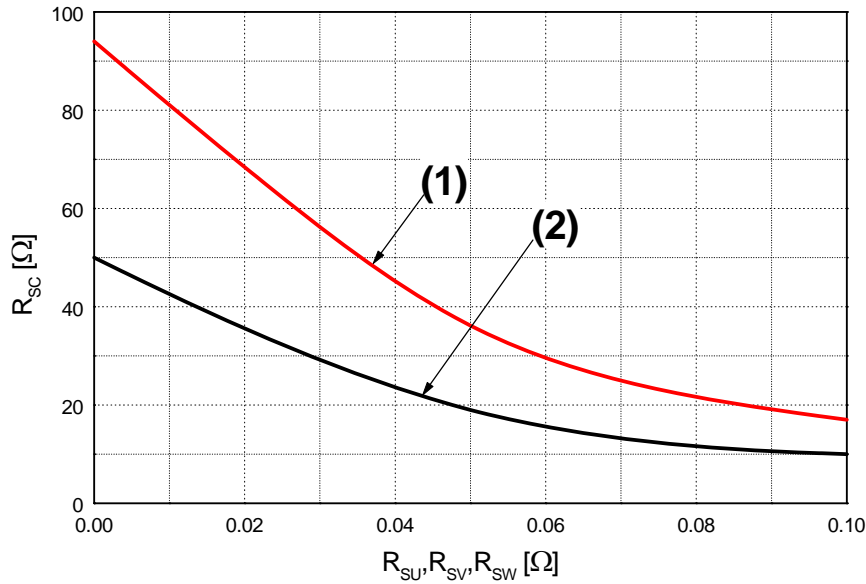

Figure 6. R_{SC} Variation by Change of Shunt Resistors (R_{SU}, R_{SV}, R_{SW}) for Short-Circuit Protection
- Short-circuit protection is functioning only at the low-sides. It would be recommended that the value of the external sensing resistor (R_{SC}) should be selected around 50 Ω in order to make the SC trip-level of about 22.5A at the shunt resistors (R_{SU}, R_{SV}, R_{SW}) of 0 Ω. For the detailed information about the relationship between the external sensing resistor (R_{SC}) and the shunt resistors (R_{SU}, R_{SV}, R_{SW}), please see Figure 6.